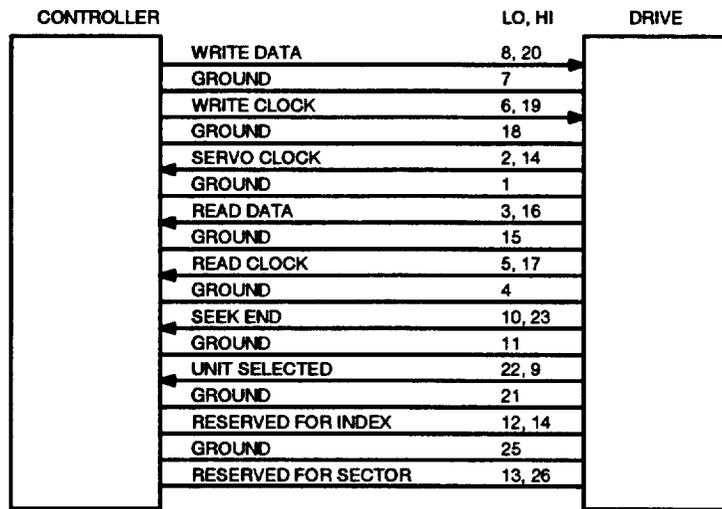

Figure 9. Data Cable Signals
3.06 The "B" cable carries seven data signals between the DFC and the drives (Figure 9). These signals are listed in Table C along with their functions.